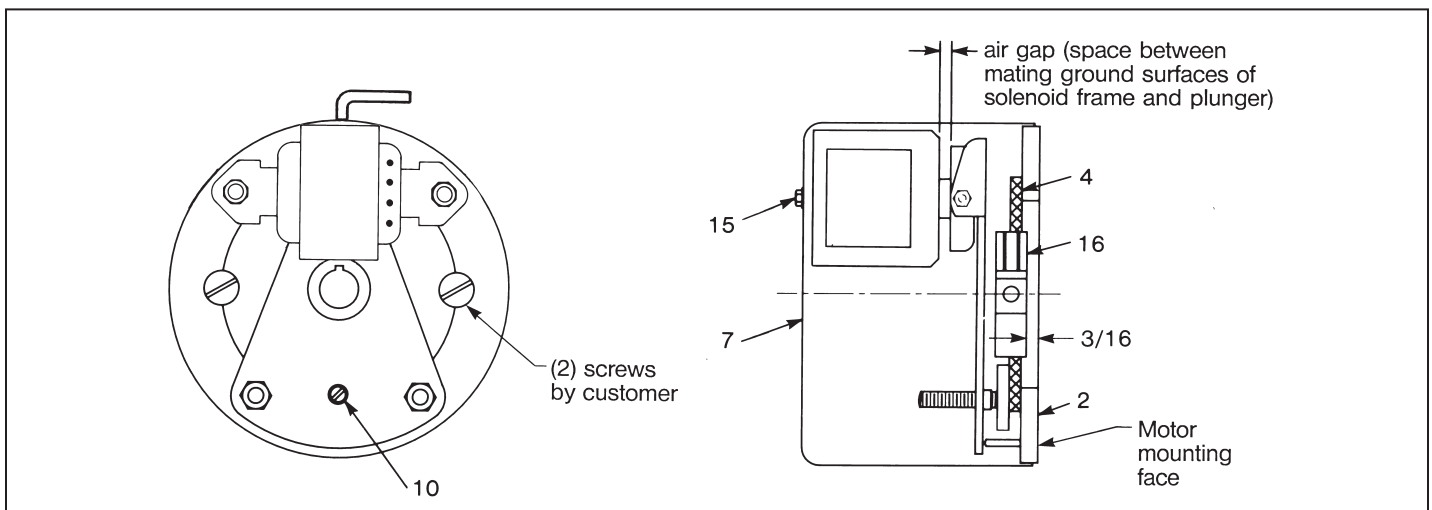

Figure 6
1. Normal friction disc wear will cause solenoid air gap to become larger from the original set 1/8" air gap. An increase in stopping time and a slight reduction in torque will consequently occur. See Figure 6.